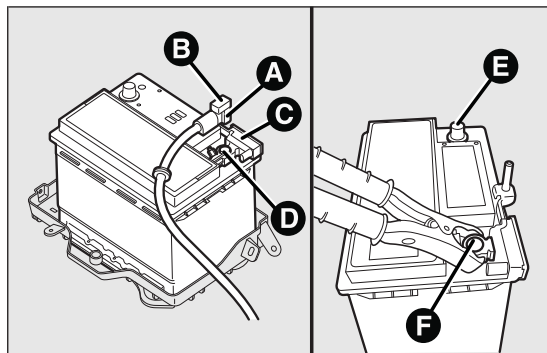

fig. 177
with Start&Stop (RADSOX) system: fig. 177
- ❑ connect the positive cable to the positive battery terminal E and the negative terminal to the IBS sensor F as shown in fig. 177;
- ❑ after having disconnected the charger, reconnect connector A to IBS sensor C as shown in fig. 177.